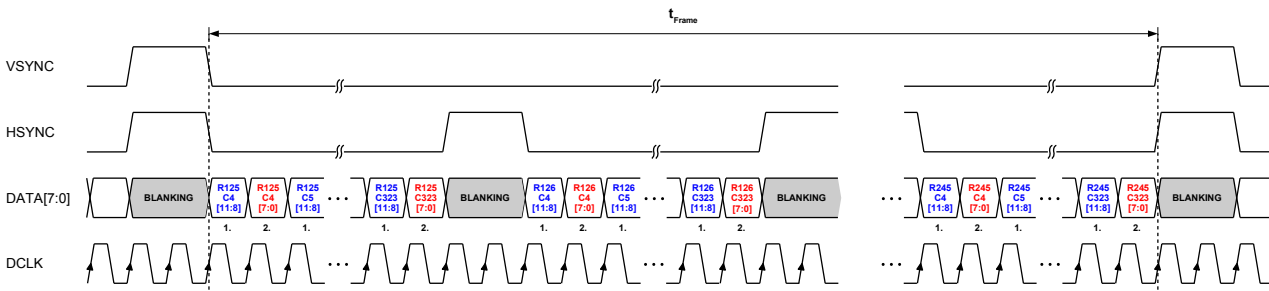

Figure 32: **msb/lsb** split mode
- msb/lbs split mode: Transfers 12 bit pixel data with MSByte leading and LSByte trailing with 2x DCLK. Refer to Table 14 and Figure 32.